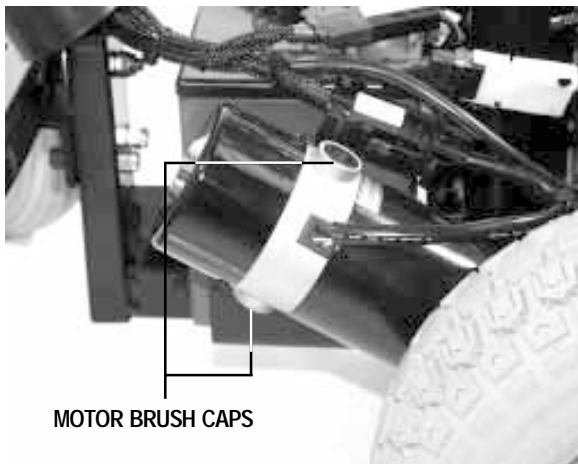

Figure 16. Motor Brush Caps
2. Unscrew the motor brush caps. See figure 16.